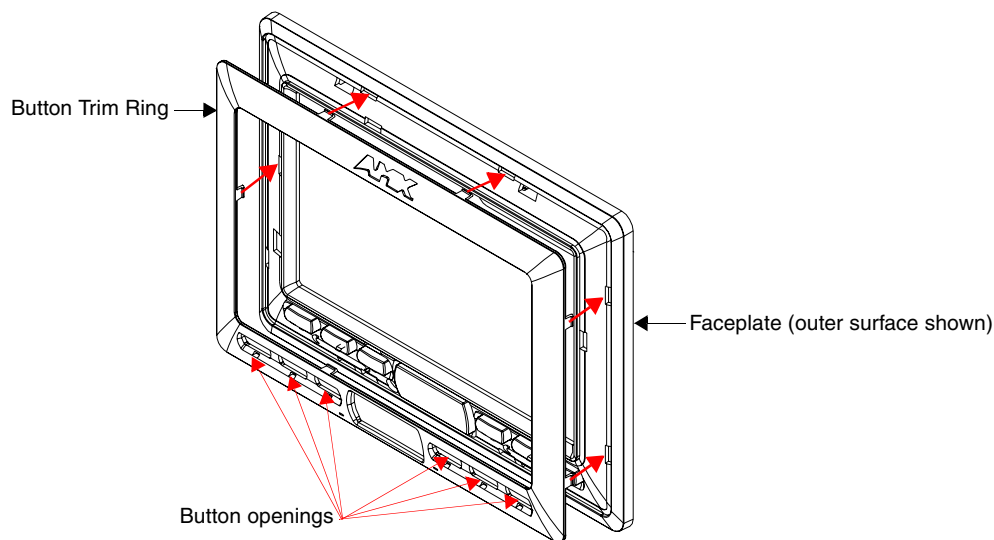

FIG. 35 Inserting the Button Trim Ring
8. Gently insert the Button Trim Ring latches into their corresponding openings on the outer surface of the internal Faceplate (FIG. 35).